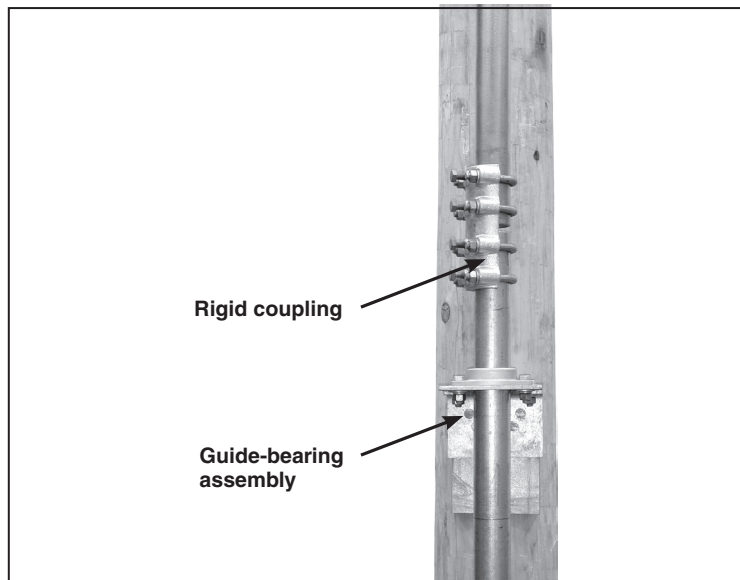

Figure 25. Install the guide-bearing assembly for additional pipe section.
STEP 24. Install a guide-bearing assembly with each additional vertical operating-pipe section, positioned in accordance with the dimension shown on the erection drawing. See Figure 25. Thrust bearings are only necessary on the uppermost guide bearing. Use rigid couplings to join these additional pipe sections. Before installing the coupling, back the piercing set screws out of the coupling body so they do not protrude into the coupling.